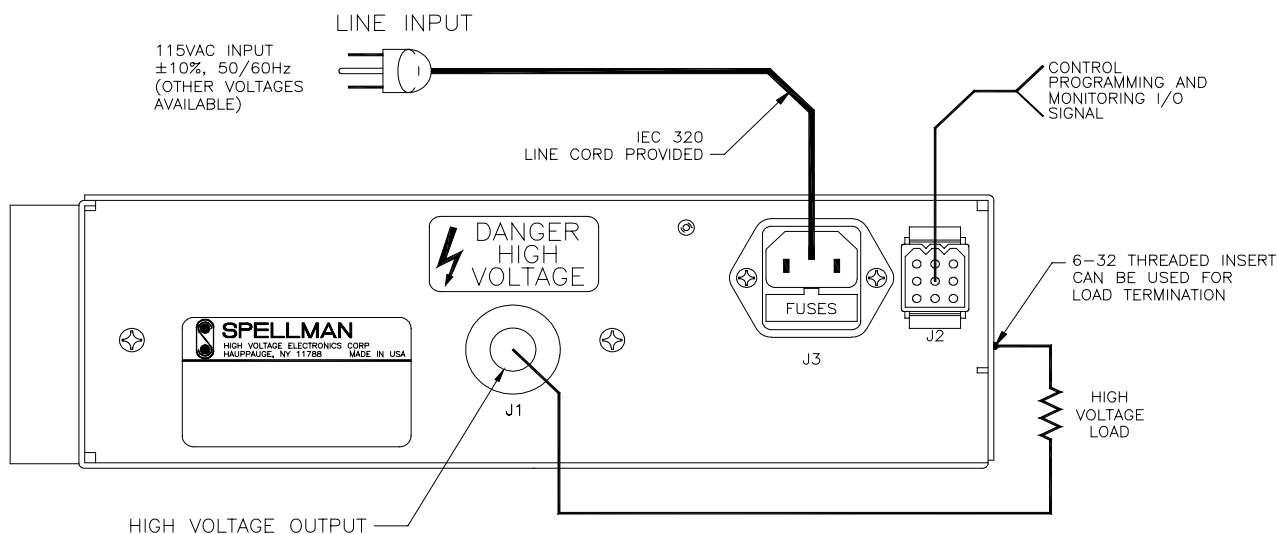

Figure 3.1 Typical Operating Set Up
C) **PROPER GROUNDING TECHNIQUE:** The chassis of high voltage power supplies must be grounded, preferably to a water system ground using copper pipe or other earth ground. See Figure 3.1 for a typical operating setup. The return line from the load should be connected to the power supply chassis. Using a separate external ground at the load is not recommended. An IEC 320 connector is provided for connection to the line voltage source. A standard three prong line cord is also provided.